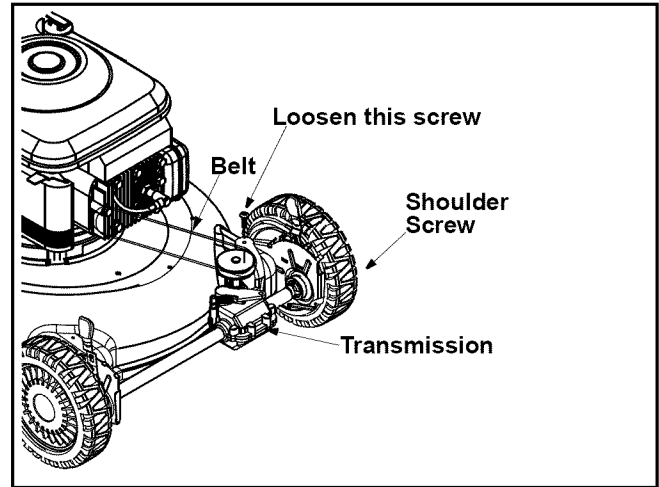

Figure 15
- Using a torque wrench, loosen the screw holding the belt tension spring to the transmission. See Figure 15.